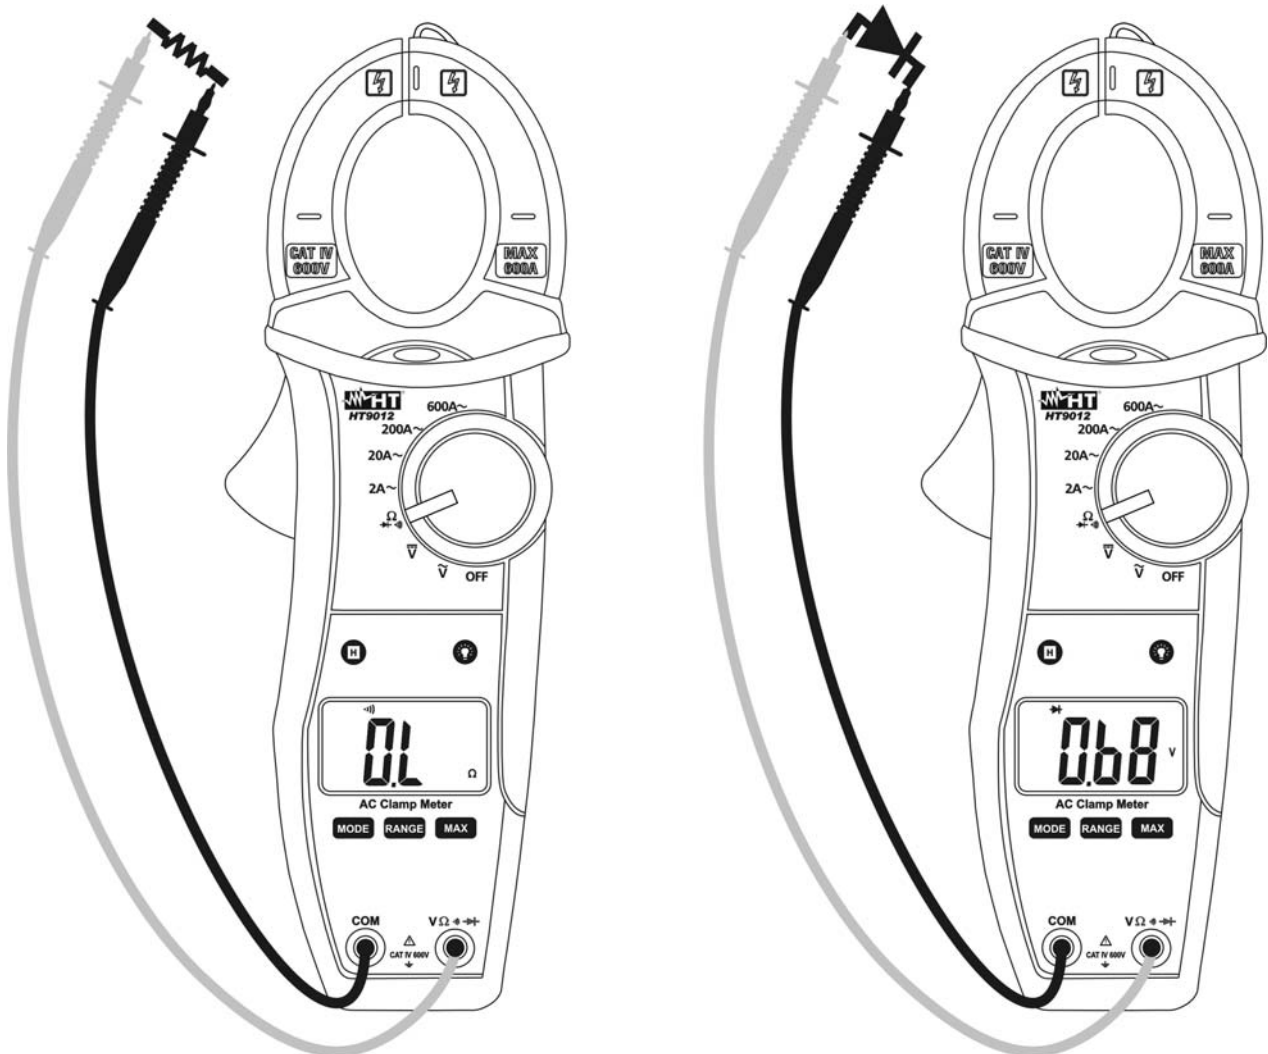

Fig. 7: Taking continuity test and diode test
3. Insert the red test lead plug into  $V\Omega \rightarrow \text{diode symbol}$  jack and the black test lead plug into **COM** jack and perform continuity test on the object on test (see Fig. 7 – left side). Buzzer emits sound if the measured resistance value is less about  $100\Omega$
5. Connect the red test leads to the anode of diode on test and the black test lead on the cathode ones (see Fig. 7 – right side)